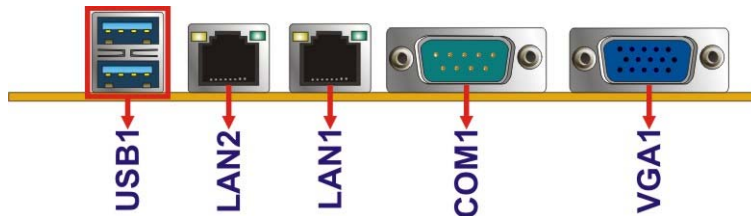

Figure 3-29: External Interface Connectors
CN Location: See **Figure 3-29**
- CN Location:** See **Figure 3-29**